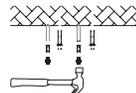

Figure 4
2. Fix screws into the holes with a hammer (Figure 4).